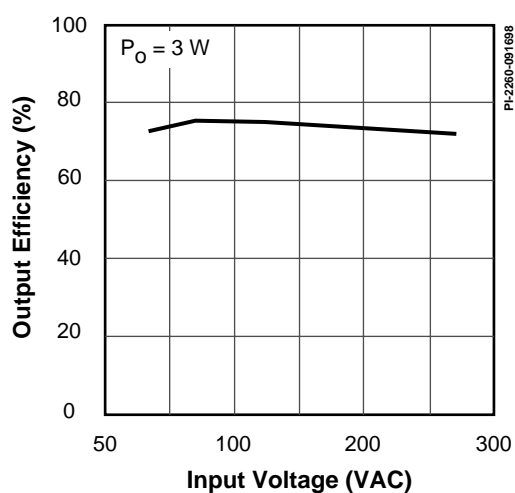

Figure 6. Efficiency vs. Input Voltage, 3 W Output.
**Efficiency (Line Dependent)** - Efficiency is the ratio of the output power to the input power. The curves in Figures 6 and 7 show the efficiency as a function of input voltage. Note that the efficiency is relatively constant over the entire input voltage range.